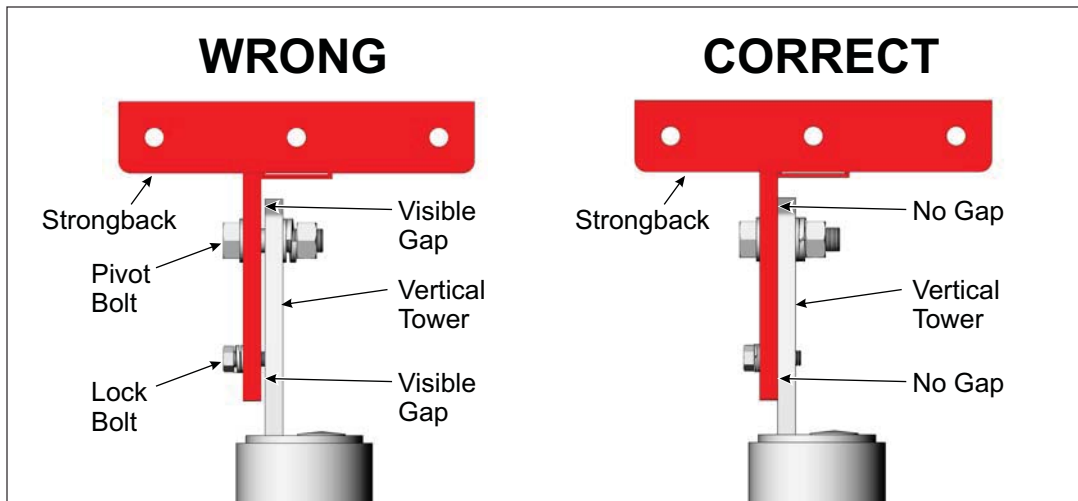

Figure 2-3: Tighten and Torque the Pivot Bolt
- Tighten the Pivot Bolt. The Pivot Bolt cannot be left loose - the Mounting Sleeve Vertical Tower must be firmly clamped to the side of the Strongback eliminating any gaps between the Vertical Tower and the Strongback. **Torque to 75-85 ft.-lbs.** (See Figure 2-3)